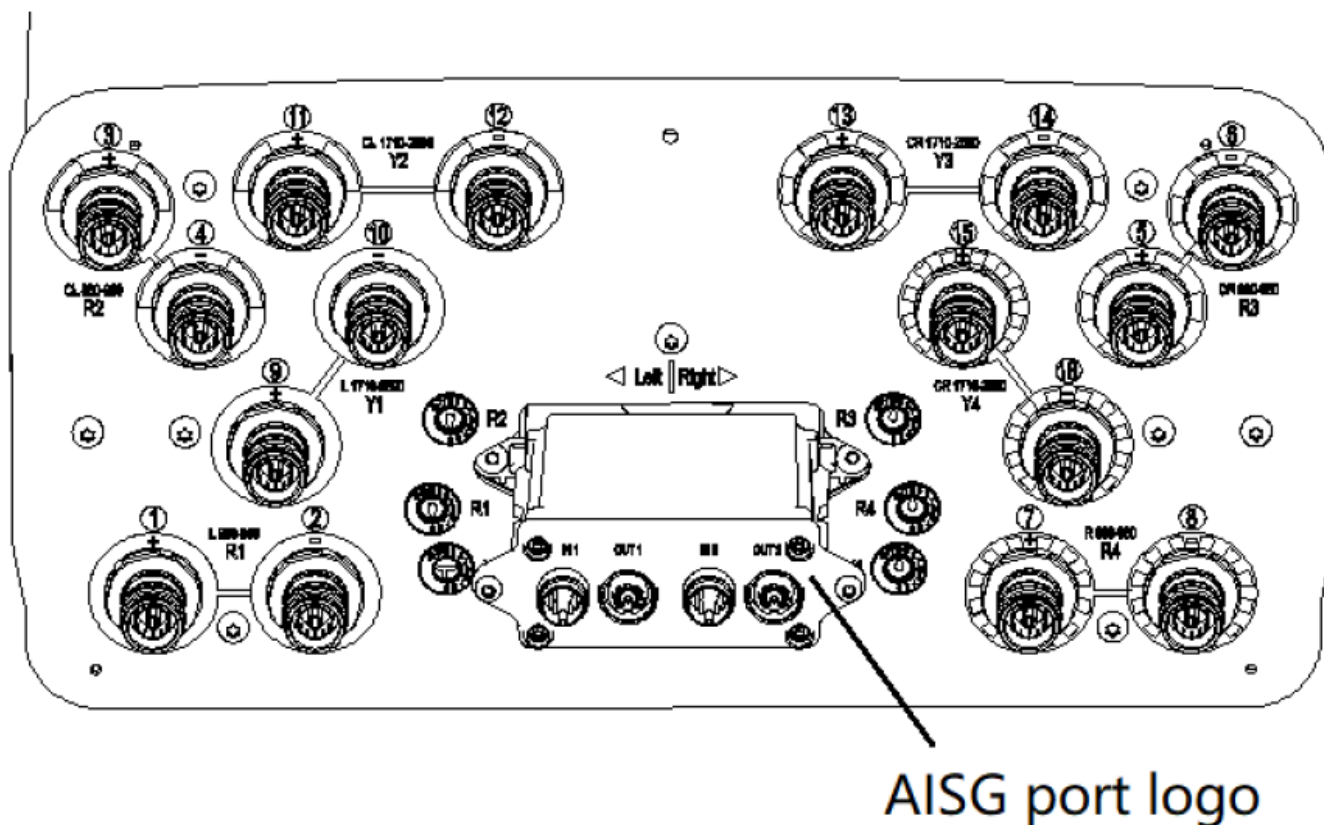

Figure 2 MIRCUCU Alignment
a) As shown in Figure 2, "AISG OUT" logo on Antenna cover need to be aligned with MIRCUCU "IN" and "OUT", then insert MIRCUCU into antenna mounting slot.